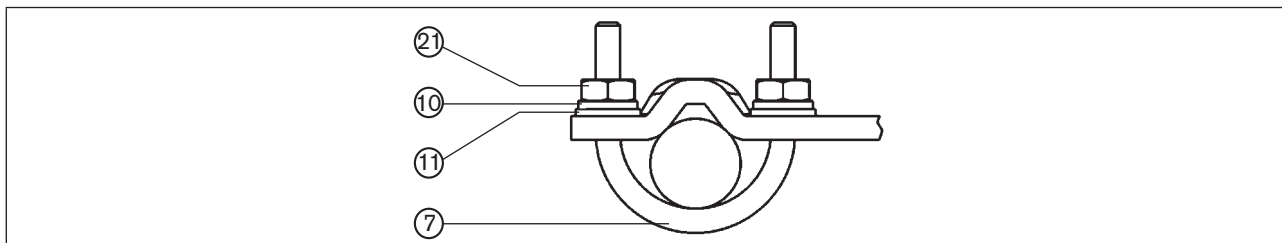

Figure 26: Attach positioner with mounting bracket; for actuators with columnar yoke
→ Attach mounting bracket to the columnar yoke with the U-bolt ⑦, washers ⑪, circlips ⑩ and hexagon nuts ⑫ (see "Figure 26").